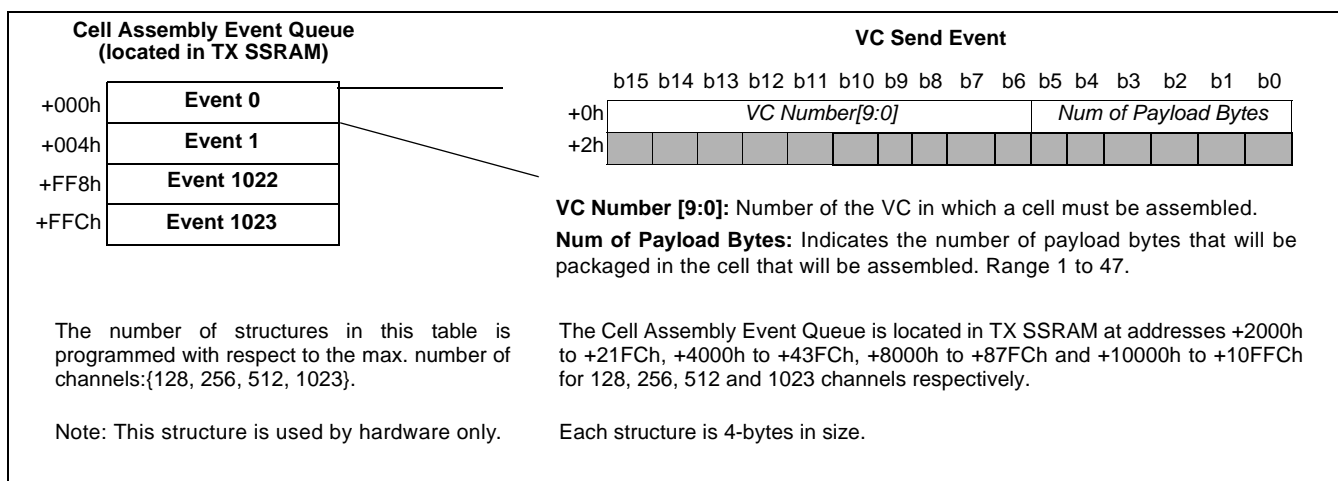

Figure 20 - Cell Assembly Event Queue
- When more than one CPS-Packet event is raised within the same CT_FRAME, each CPS-Packet event generates its corresponding CPS-Packets Final Assembly Structure in the TX TDM process. The TX SAR sequentially steps through each CPS-Packet Final Assembly Structure and for each process consults the associated AAL2 VC Structure to determine if enough payload has accumulated to generate a VC Send Event (see Figure 20, "Cell Assembly Event Queue," on page 43). If enough payload is present then the TX SAR raises a VC Send Event and updates the Pending Payload Byte field with the remaining number of pending payload bytes. However, a VC Send Event may also be generated via the time-out period specified in the AAL2 VC Structure. All VCs have a time-out period that specifies the maximum time that any CPS-Packet destined to that VC can wait before a cell containing them is assembled. The time-out period is defined in CT Frames (i.e. multiples of 125µs) in the AAL2 VC Structure.